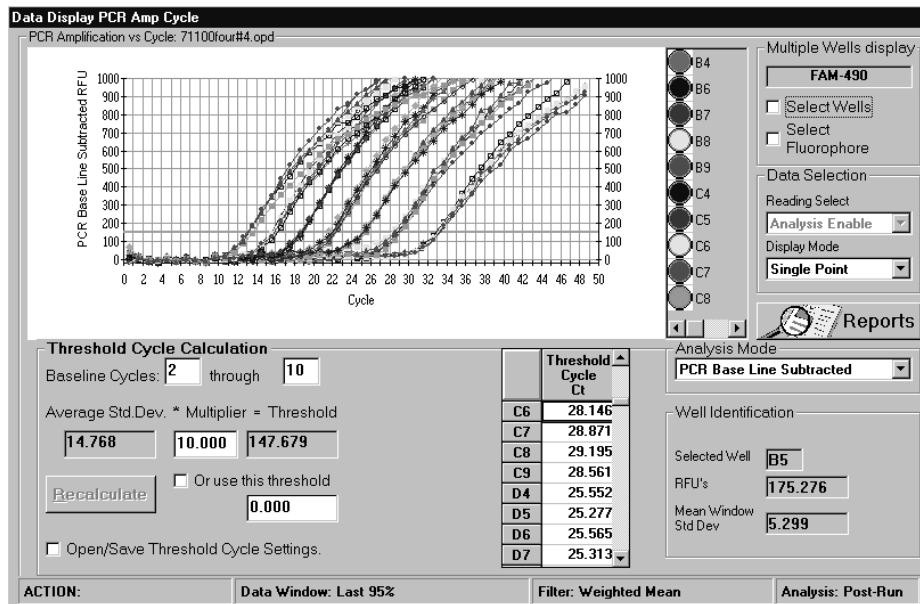

Fig. 7.6. PCR Base Line Subtracted Plot.
- Clicking the mouse on a trace in the plot, shows information about the data and the well in the **Well Identification** box at the bottom right of the screen (Figure 7.6). In addition to identifying the well, the mean fluorescence reading for that cycle and the standard deviation of all readings collected at that cycle are also shown.